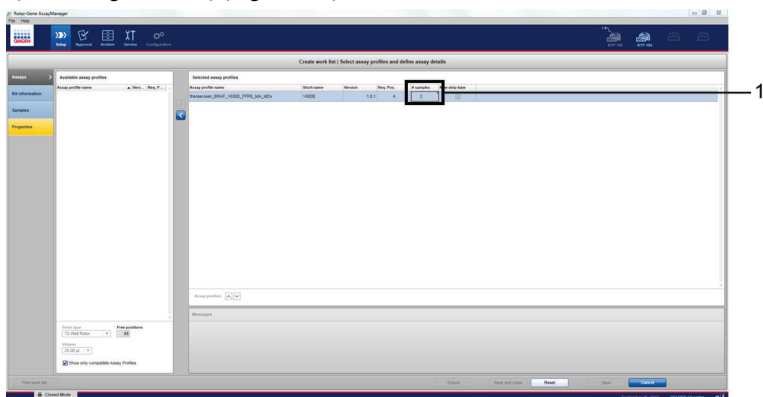

Figure 17. “Create work list” main window on the “Assays” tab. 1 = Enter the sample number.
2. In the “Selected assay profiles” window, enter the number of samples to be tested (excluding controls) (Figure 17).